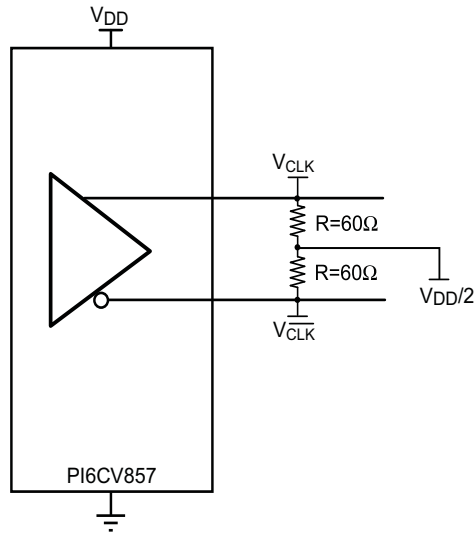

Figure 1. IBIS Model Output Load
Switching characteristics over recommended operating free-air temperature range (unless otherwise noted)(See Figure 1 & 2)
2. The slew rate is determined from the IBIS model with test load shown in Figure 1.